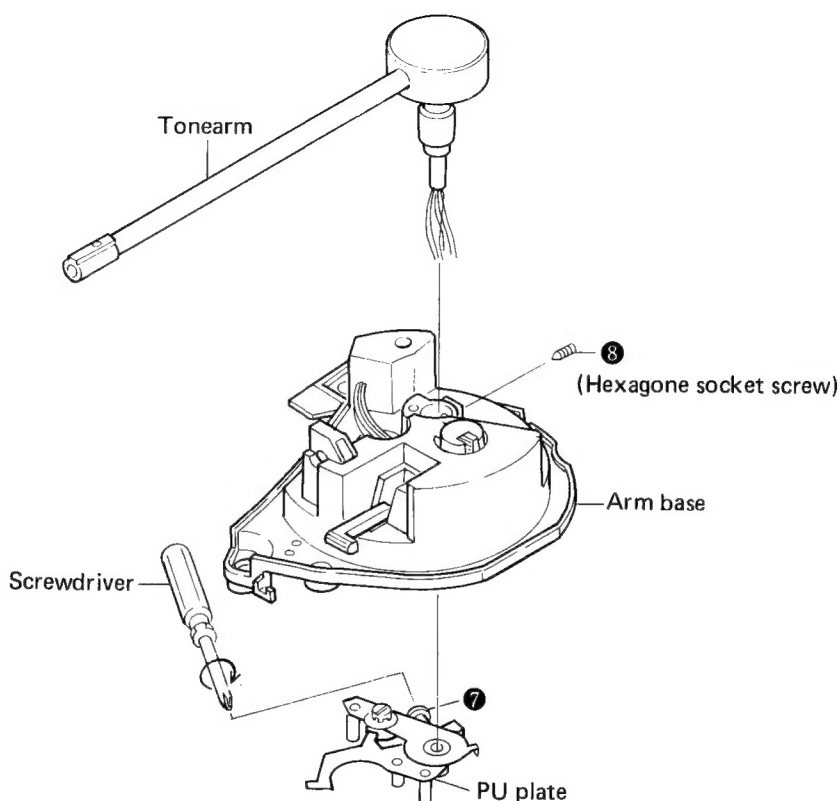

Fig. 3-3 Remove tonearm
2. Loosen the set screw ⑦ with a screwdriver to remove the PU plate under the arm base (See Fig. 3-3).
3. Undo the screw ⑧ securing the tonearm to the arm base (See Fig. 3-3).